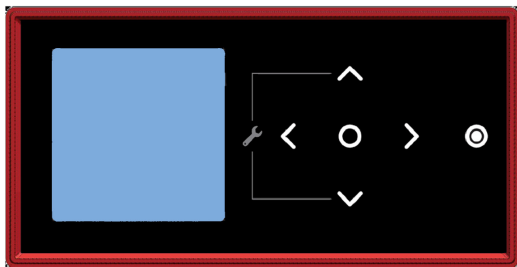

Fig. 7: CTRLMax Navigation Control
1. Press and hold the UP and DOWN buttons together see Fig. 7.
1. Touch simultaneously on the up and down soft keys for 3 seconds to access the functions for the installer. See Fig. 7.